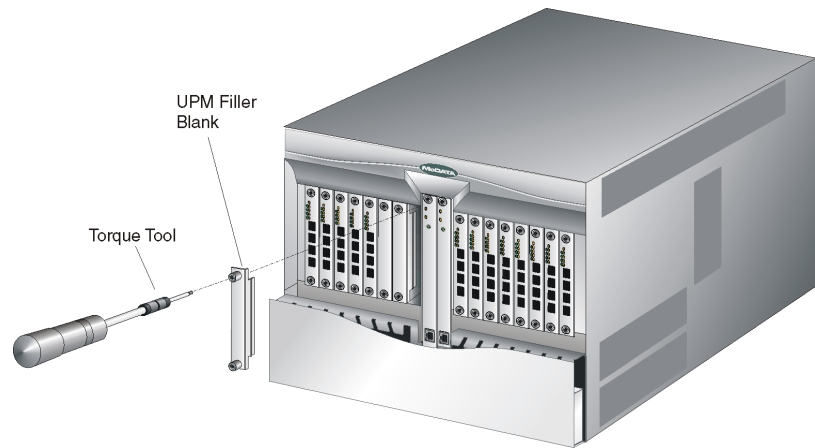

Figure 5-8 Filler Blank Removal and Replacement
- 4. Insert the torque tool into each locking Allen screw (Figure 5-8). Turn each screw counter-clockwise until the spring releases and the tool turns freely.
2. Hold the filler blank by its stiffener and insert it in the chassis card track (Figure 5-8).